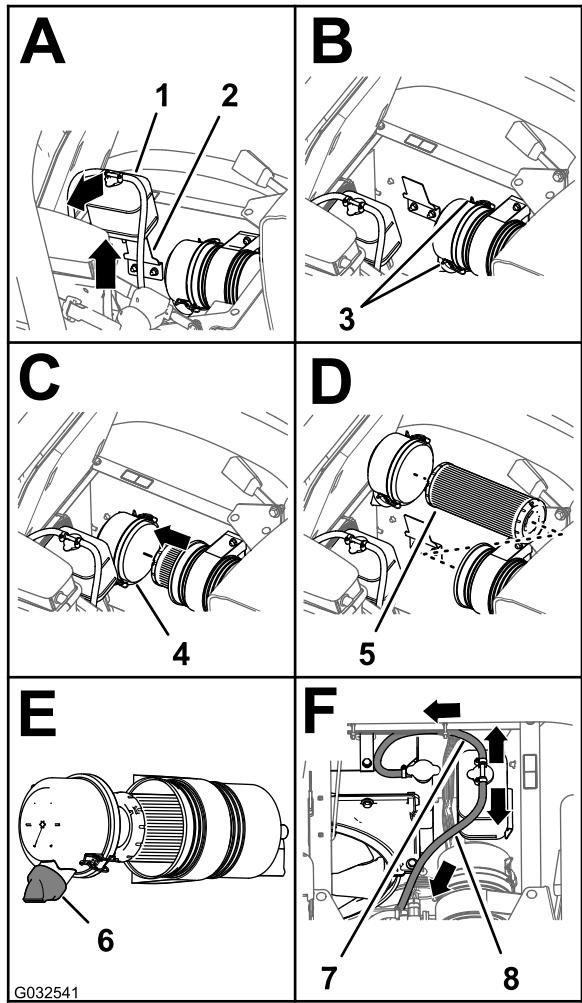

Figure 109
3. Lift the coolant-overflow tank up and off the tank-support bracket (Figure 109).
4. Loosen the 2 latches that secure the dust cap to the air-cleaner body (Figure 109).
6. Clean the inside of the dust cap, air-cleaner body, and dust valve with a damp rag (Figure 108 and Figure 109).
7. Insert the air-filter element into the air-cleaner body (Figure 109).
8. Install the cover onto the air-cleaner body and secure the cover with the 2 latches (Figure 109).
**Note:** Ensure that the dust valve is aligned between the 5 to 7 o'clock position when viewed from the end (Figure 109).
9. Align the coolant-overflow tank to the tank-support bracket and seat the tank firmly (Figure 109).
**Important:** Ensure that the pressure-relief hose is routed forward and down, and the tank-vent hose is routed rearward as shown in Figure 109.